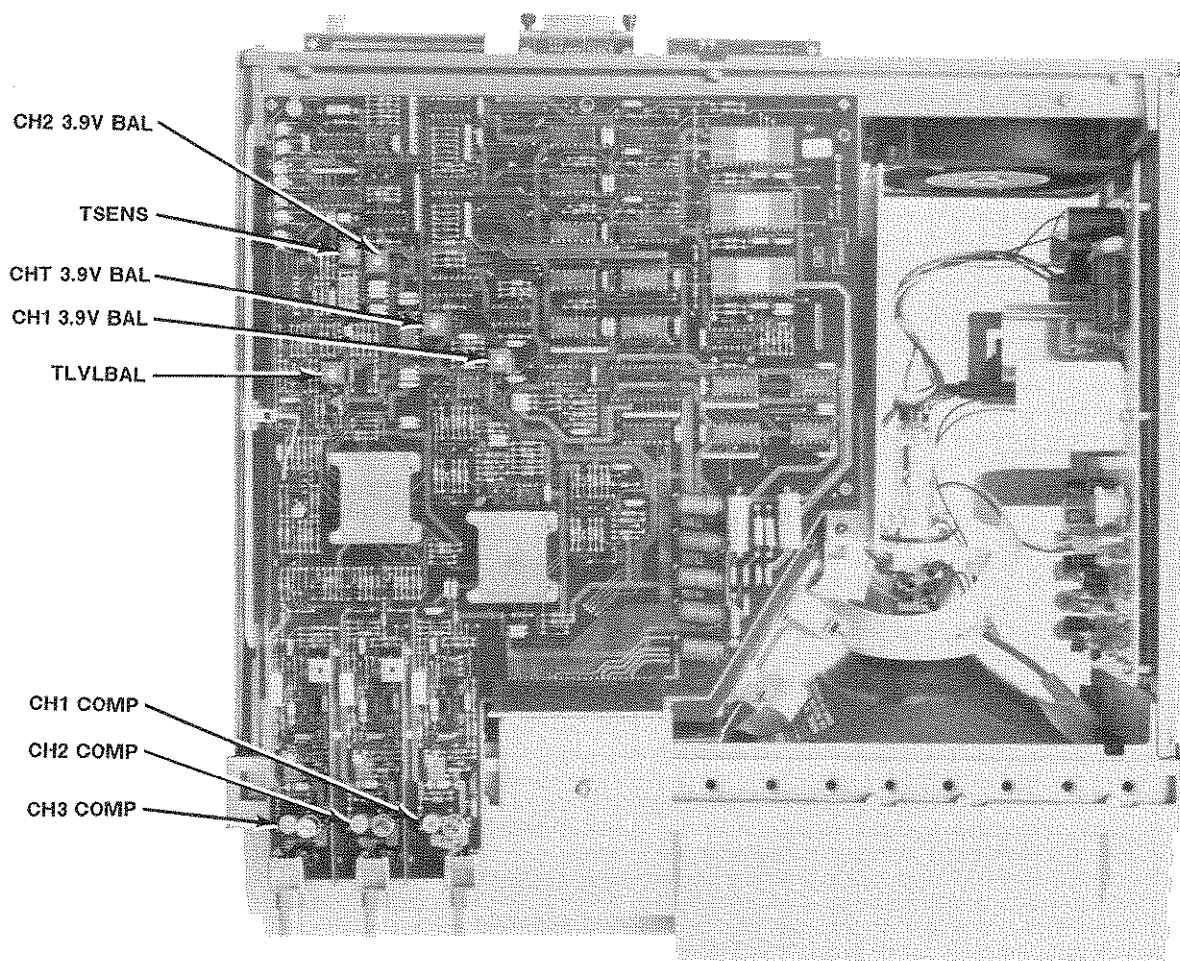

Figure 10-7. Analog Board Adjustment Locations.
5. Display Chan 1 and note position trace on screen. Now set CHAN Range to 16 V and note trace position. Adjust CH1-3.9V BAL (figure 10-7) while switching between the 16-V range and the 40-V range. The voltage shift on the 40-V range should be equal and opposite to the voltage shift on the 16-V range when adjusted correctly. Do not offset more than ± 4 V.
8. Select SYSTEM Calibration menu. Execute ALL GAIN AND OFFSET (0). Wait until the gain and offset auto calibration has finished.
6. Connect the function generator output to 54200A/D INPUT 1 BNC and adjust the CH1 COMP adjustment for maximum square wave flatness using an insulated adjustment tool (figure 10-7).
4. The triggered waveform should appear similar to figure 10-10. If the waveform is not triggered, then turn TSEN (figure 10-7) completely clockwise. Now adjust TLVLBAL until a triggered waveform is displayed.
4. While switching trigger slope between +Slope and -Slope, adjust TLVLBAL (figure 10-7) until the vertical trace shift is centered about the center horizontal graticule.